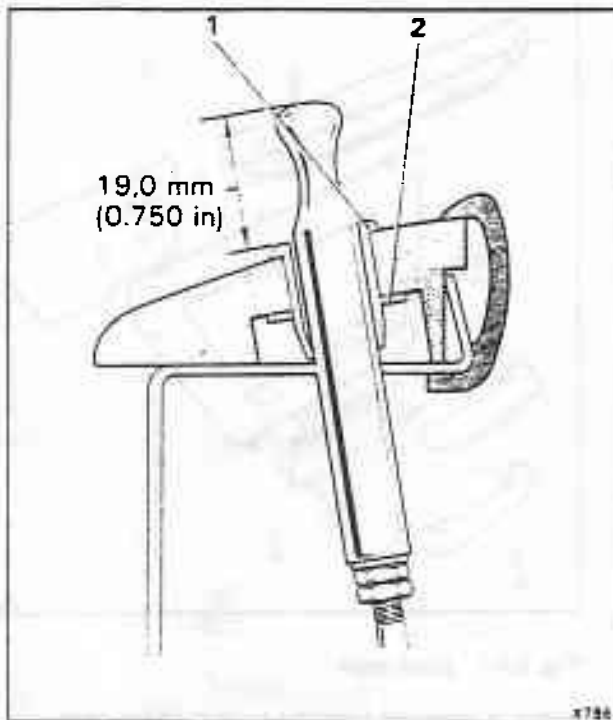

Fig. S4-2 Correct fitting of guide bush and Starlock washer
2. Check that the sill lock control button slides smoothly through the guide bush. If any vibration is detected in the guide bush area, check that the guide bush is seated correctly in the waist rail finisher and that it is secured by a Starlock washer (see fig. S4-2). If necessary, renew the guide bush and Starlock washer.